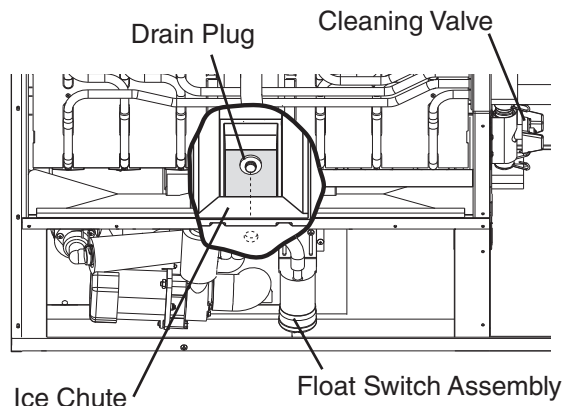

Fig. 7
- 3) Remove the insulation panel. Remove the drain plug located on the lower front part of the ice chute. See Fig. 7. Allow the water tank to drain.